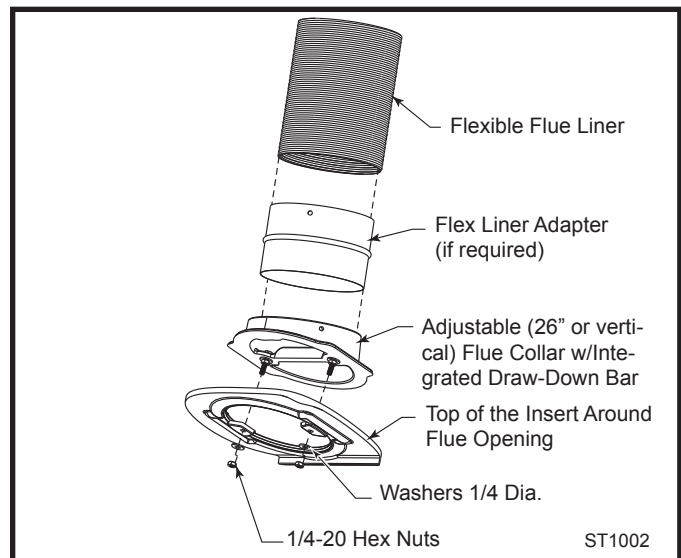

Fig. 6 Components of the venting system.
4. Install the venting system: Again, depending on your application it may be easiest to install the connector or stainless steel flue liner in the chimney first. Refer to Figure 6 for the components of the venting system.